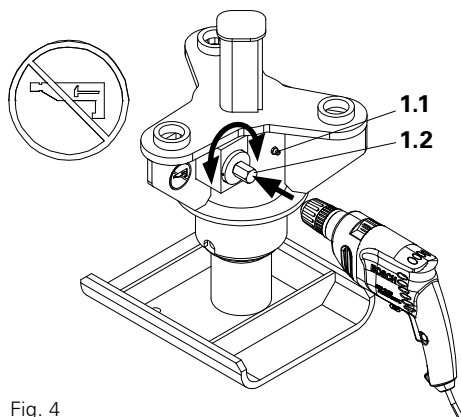

Fig. 4
5. In order to completely retract the Lowering Device HDA, turn the Driving Bolt counterclockwise as far as possible. (Fig. 4)